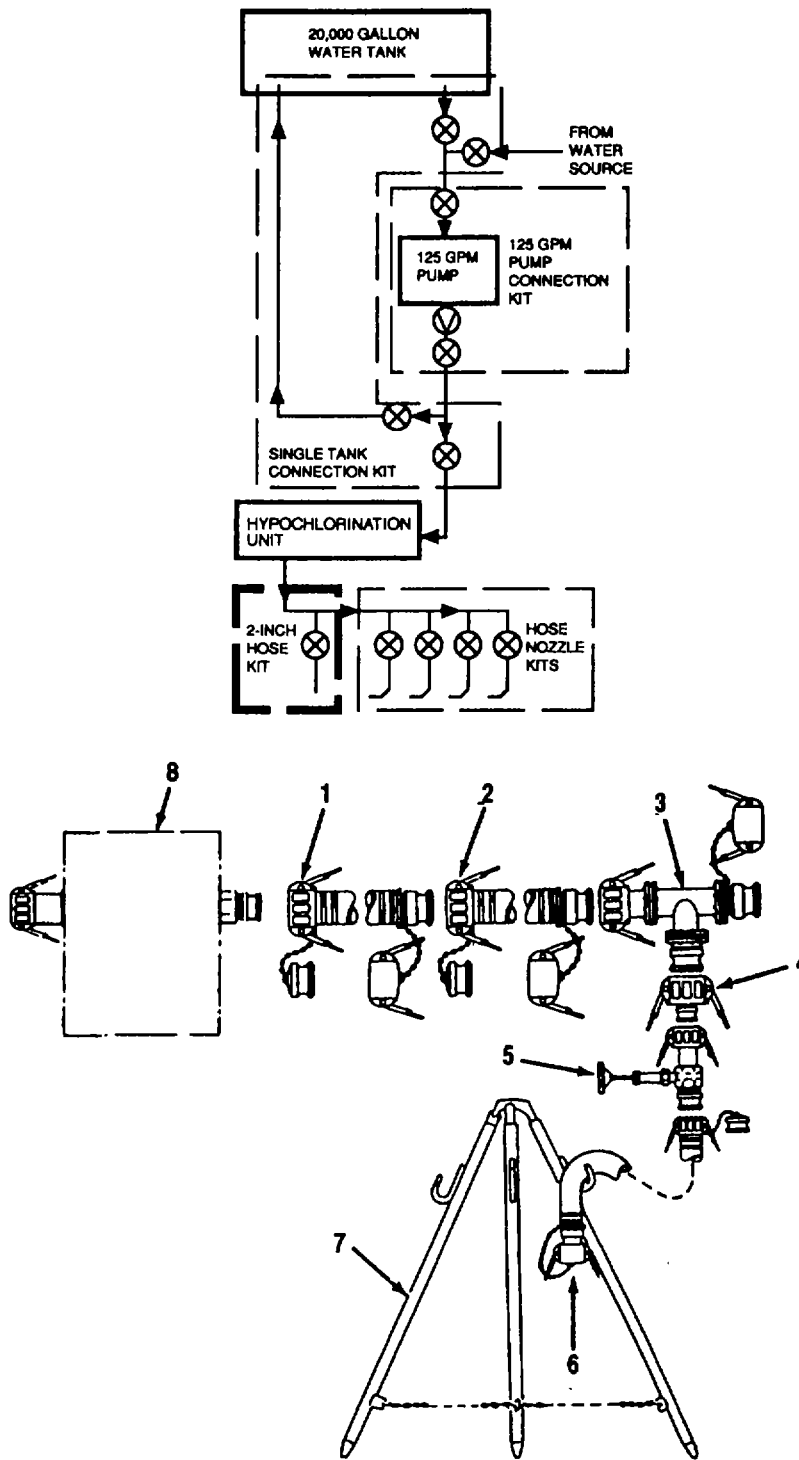

Figure 2-7. 2-Inch Hose Connection Kit Assembly
- g. Assemble 2-Inch Hose Connection Kit. (Refer to Figure 2-7).